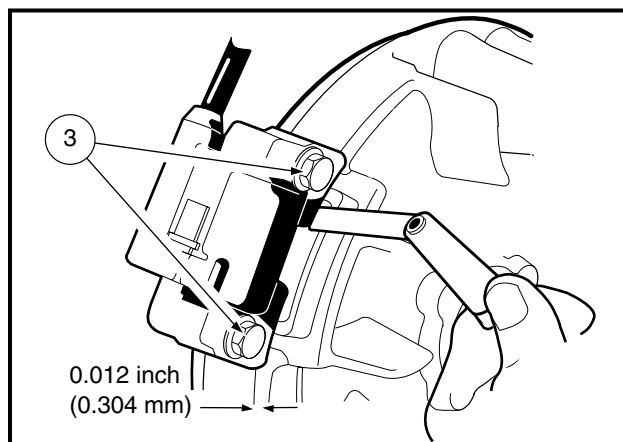

Figure 18-56 Adjust Ignition Coil Air Gap
2. Lightly tighten the two bolts (3) while using a bronze feeler gauge to maintain the ignition coil air gap to 0.012 inch (0.304 mm) (**Figure 18-56, Page 18-29**).